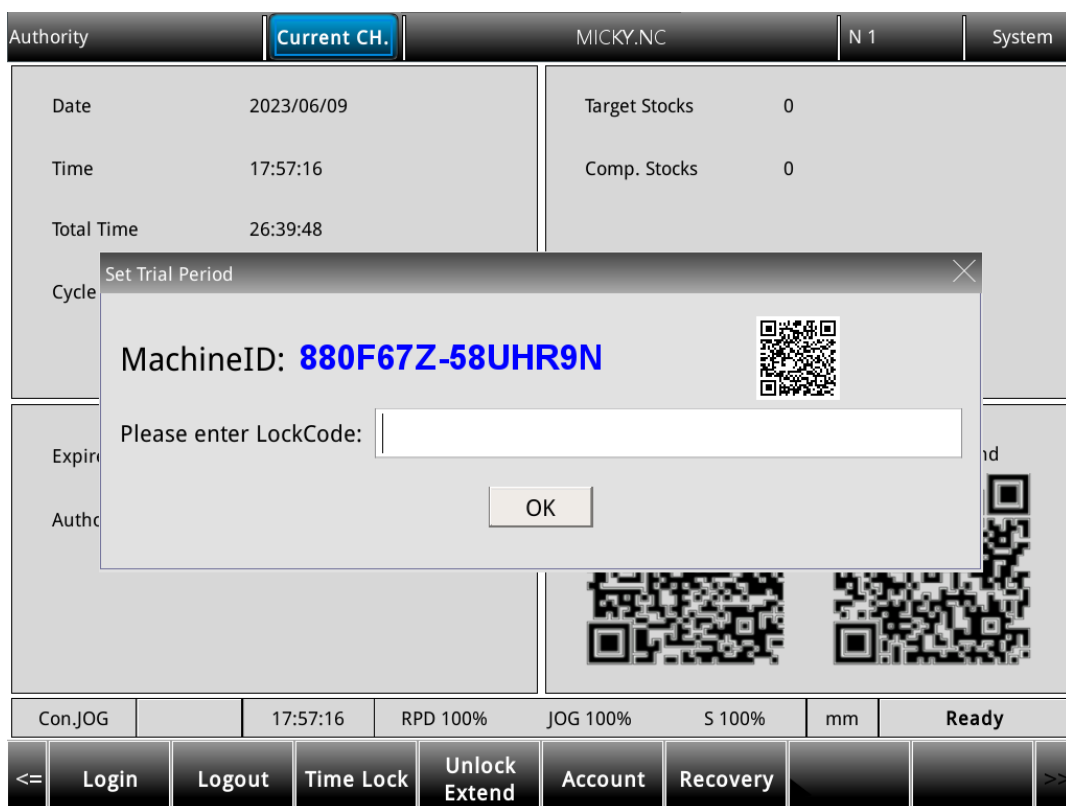

Figure 3.6.5.4.3
- (1) Press **DGN** to enter the DGN screen.
- (2) Press **Authority** to display the expiration information.
- (3) Press **Unlock Extend** to open dialog box for users to enter the **LockCode**, as shown in Figure 3.6.5.4.3.
- (4) After being authorized legally, enter the **LockCode**, press **ENTER** to reconnect power to the NC system to remove the time limit or extend time limit.
Note: after the time limit is removed, the expiration date is displayed the **9999/12/31** as shown in Figure 3.6.5.4.1, which means no time limit is set for the system.